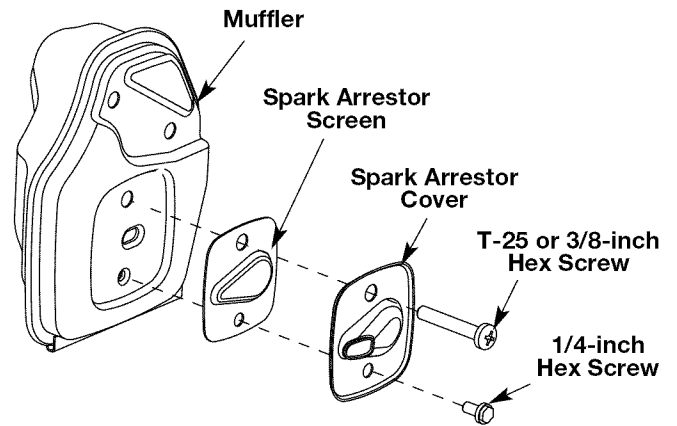

Fig. 34
- wrench, remove the screws attaching the spark arrestor cover to the muffler (Fig. 34).